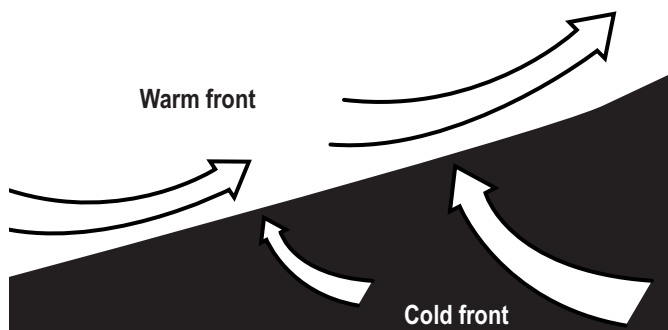

Figure 1-5. Frontal Lifting.
- *Frontal lifting.* Frontal lifting occurs when two air masses of different moisture and temperature content collide. Since the air masses will not mix, the warmer air is forced aloft (see fig. 1-5). Once there, it is cooled and then reaches its saturation point.